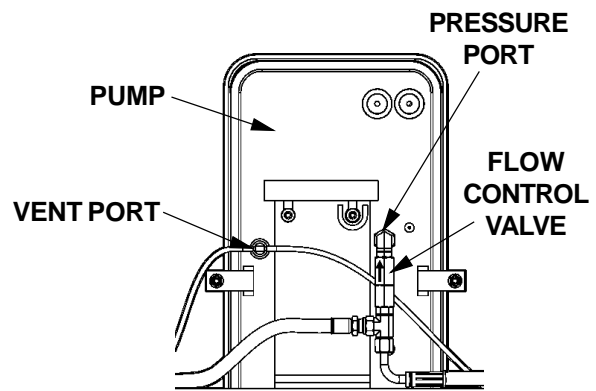

FIG. 41-3
7. Check if Flow Control Valve (**FIG. 41-3**) is pointing to the direction of restricted fluid flow (pointing up and back toward pump). If required, remove Flow Control Valve and install it correctly (**FIG. 41-3**).